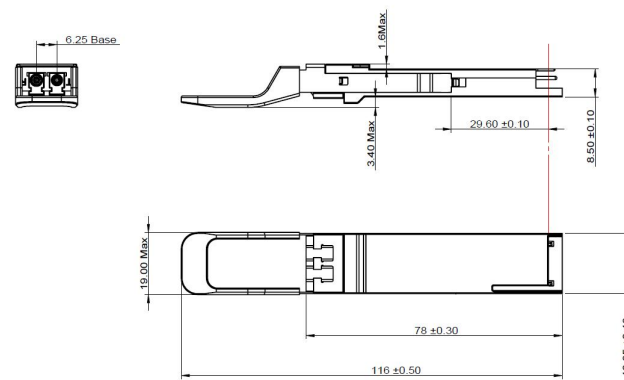

Figure 4 Mechanical Outline
[6] Receiver sensitivity ( $OMA_{outer}$ ) (max) is informative and is defined for a transmitter with a value of SECQ up to 3.4 dB. It should meet Equation (1), which is illustrated in Figure 4.